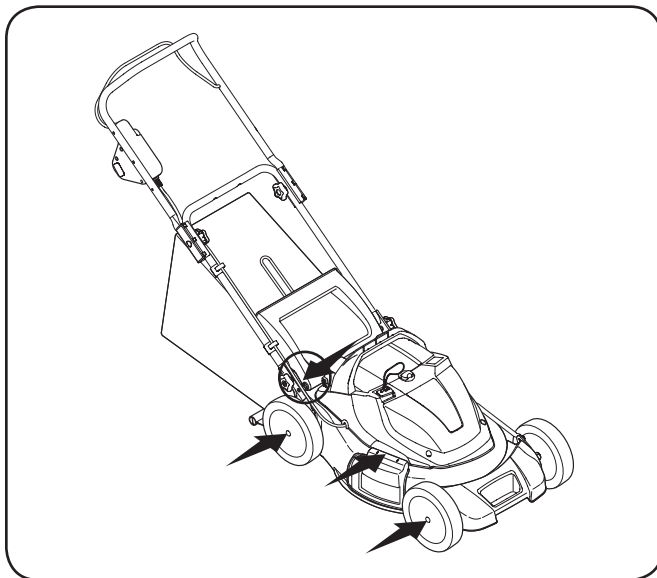

Figure 6-1
1. Lubricate the wheels at least once a season with light oil (or motor oil). If wheels are removed for any reason, lubricate surface of the pivot arm and inner surface of the wheel with light oil. See Fig. 6-1.
2. Lubricate the torsion spring and pivot point on the rear discharge door and side mulch plug periodically with light oil to prevent rust. See Fig. 6-1.